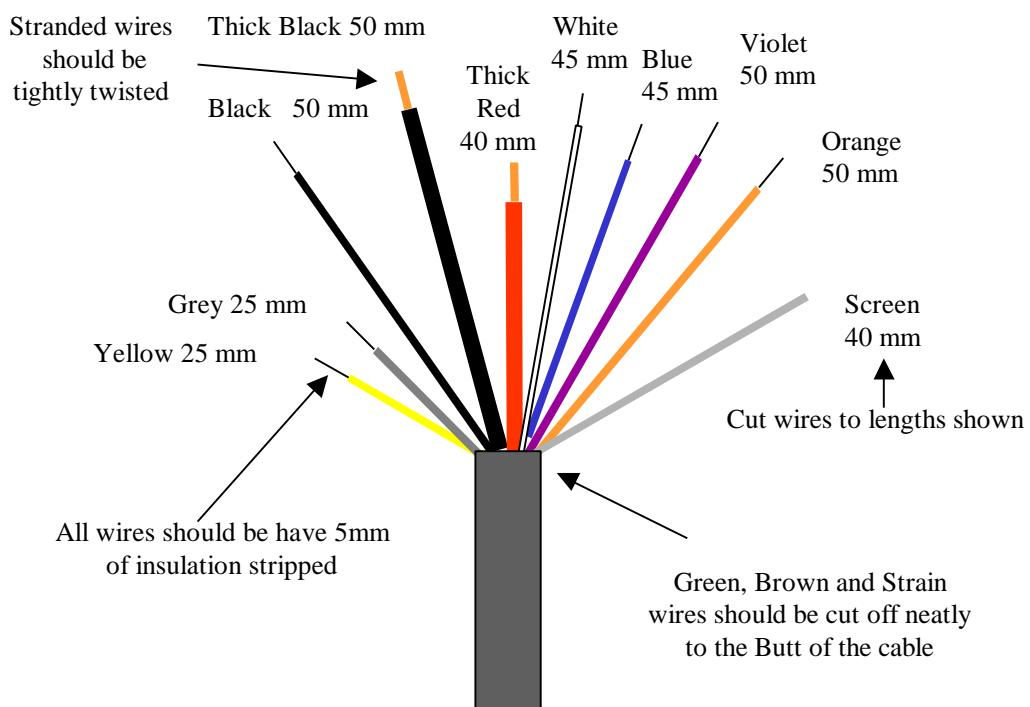

Figure 34. Wire Striping Dimensions for 80 Metre Drop Cable Lead-Out
3. Strip and terminate the wires of the drop cable as shown in Figure 34.